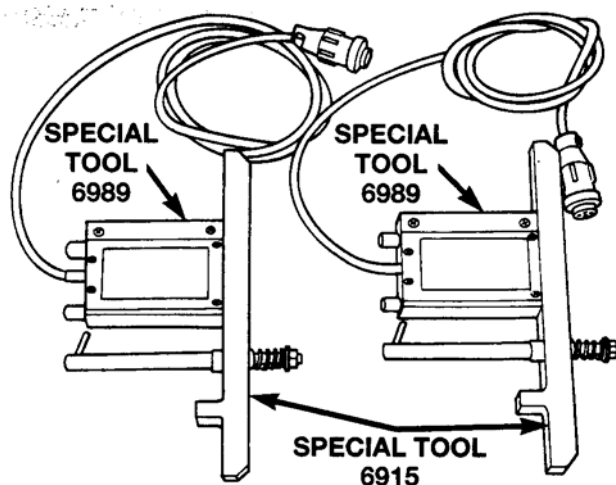

Figure 22
9. Transfer the inclinometers to the front Caster Angle Fixtures (Special Tool #6915) (Figure 22).